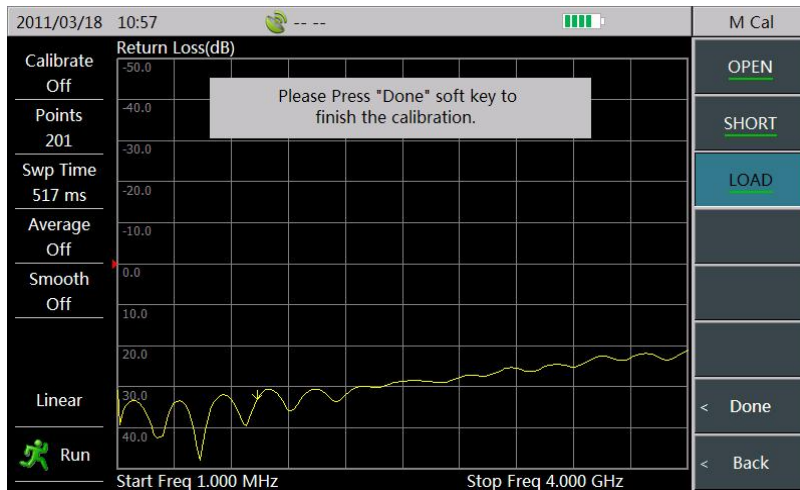

Figure 3.4 Calibration Completion
- Connect the load to the test port. Then, select the [Load] menu, at this time, the screen will automatically prompt “[LOAD]Measuring……”. When the [Load] menu becomes into [Load], it indicates completion of the load calibration, as shown in Figure 3.4. At this moment, select the [Done] menu to finish mechanical calibration process.